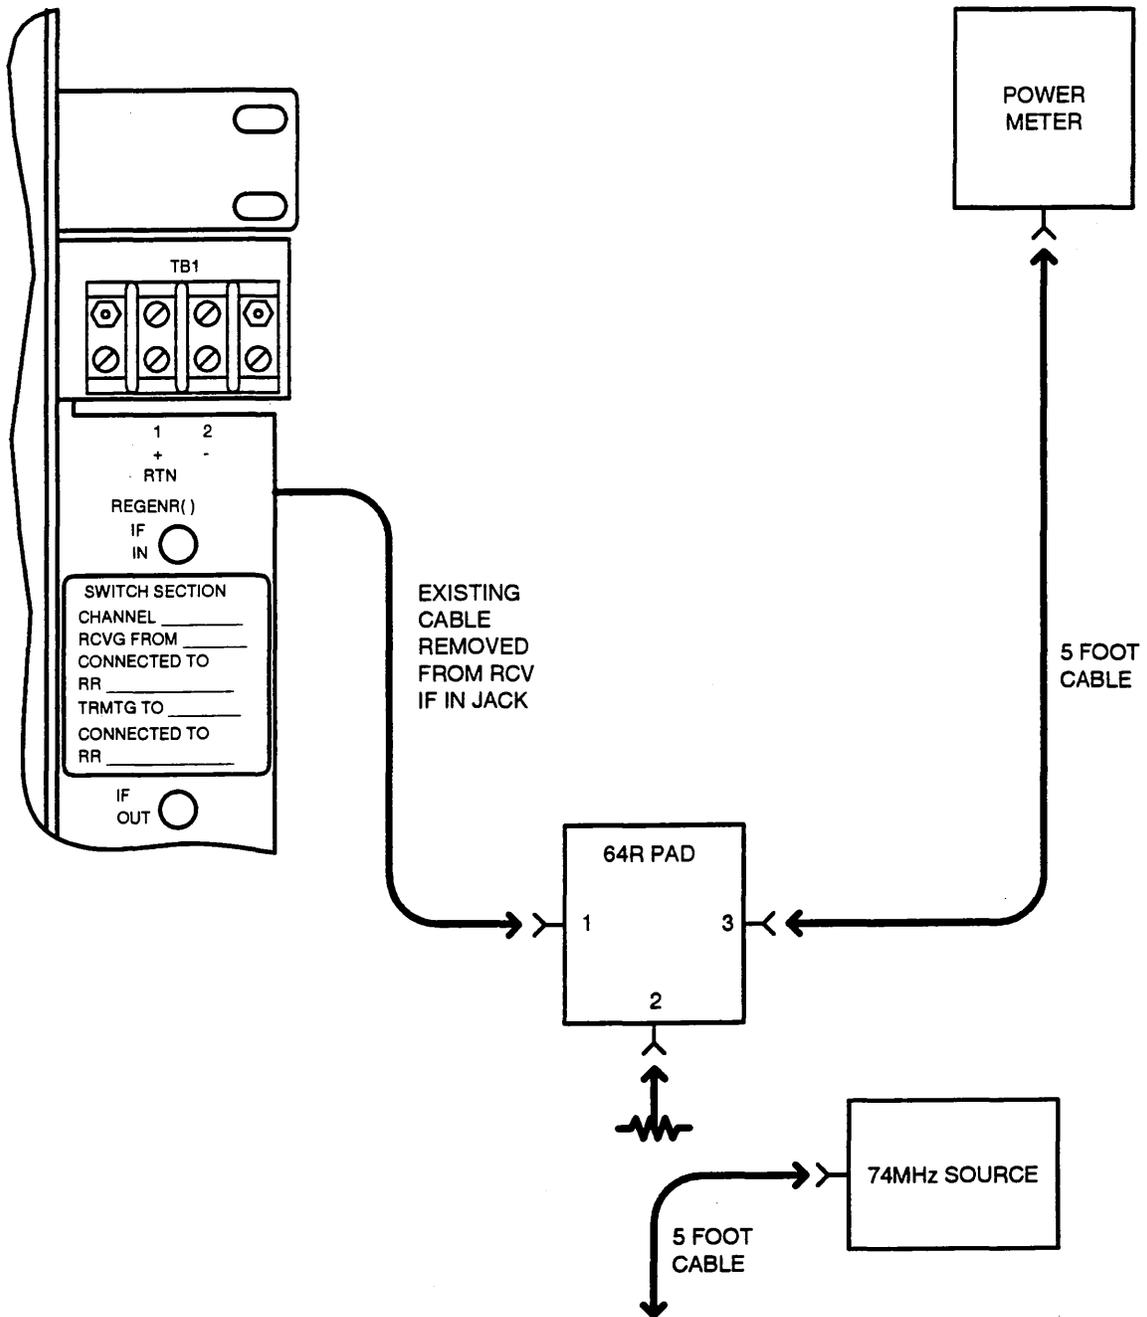

Figure 3-IF Input Signal Level Measurement Test Connections
- Refer to Figure 3.
2. Establish the setup shown in Figure 3.